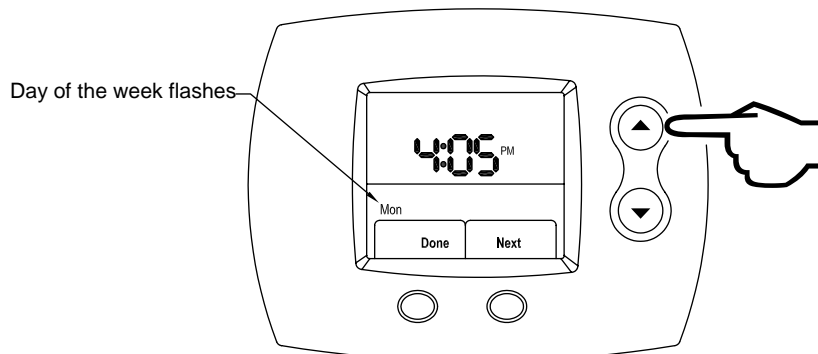

Figure 116
Step 8: Using the **UP** (increase day) or **DOWN** (decrease day) buttons, select the correct day. This process is shown in Figure 116.